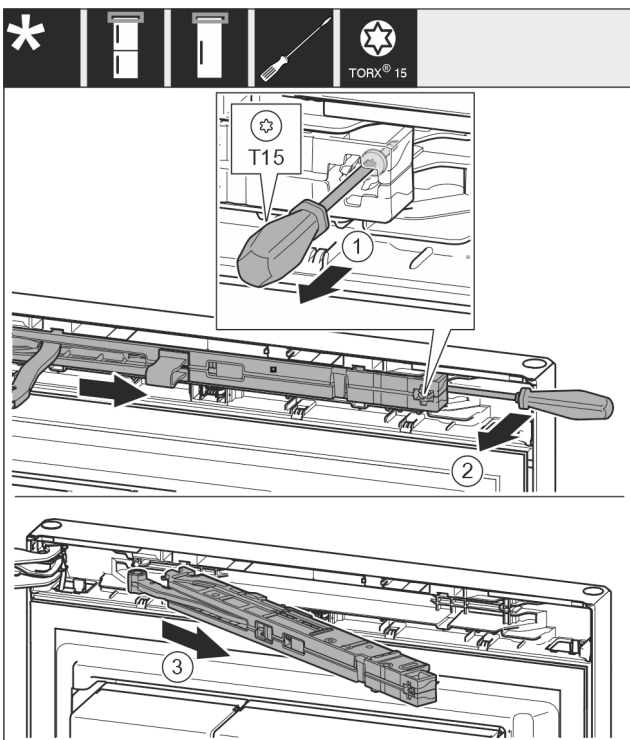

Fig. 12
- ▶ Undo the soft stop mechanism screw with a T15 screwdriver approx. 14 mm. Fig. 12 (1)
- ▶ Insert a screwdriver behind the soft stop mechanism on the handle side and rotate the unit forwards. Fig. 12 (2)
- ▶ Pull out the soft stop unit. Fig. 12 (3)